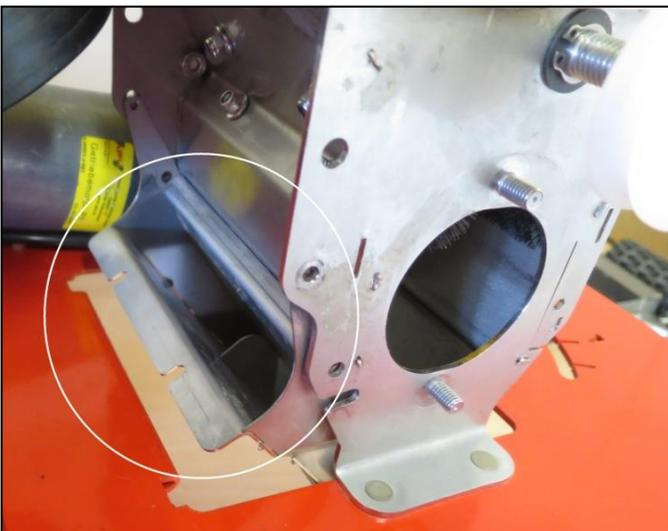
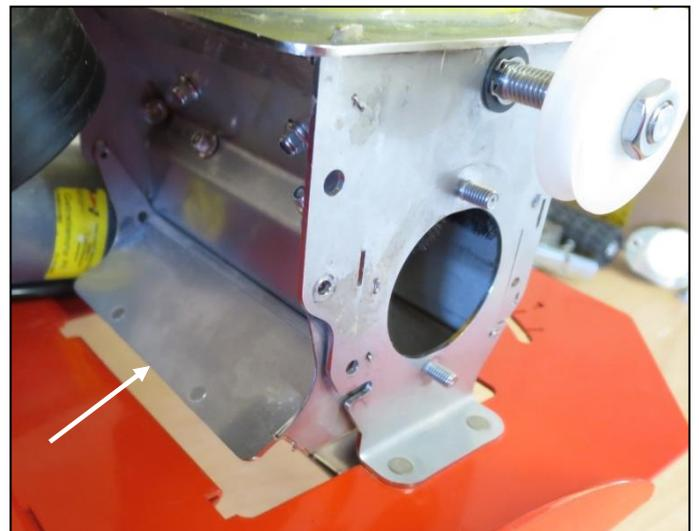

Fig.: 96
Fig.: 97
- Now install the blower fan cover plate on the opening on the rear side of the metering unit, as shown in Fig.: 96 and Fig.: 97.